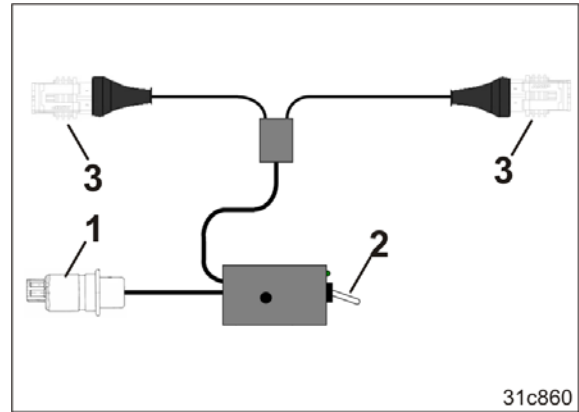

Fig. 147
17. Insert the plug (Fig. 147/1) for the coulter frame lighting into the socket in the tractor cab.
The switch (Fig. 147/2) is for switching the lighting on and off (Fig. 147/3).